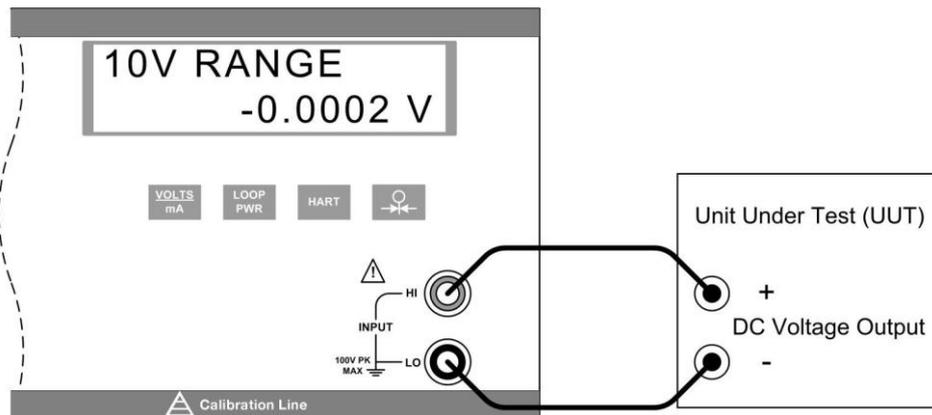

Figure 17 - Isolated DC Voltage Input Connection
- c) Connect the unit under test to the isolated voltage/current input terminals of the CED 7000 as shown in figure 17.